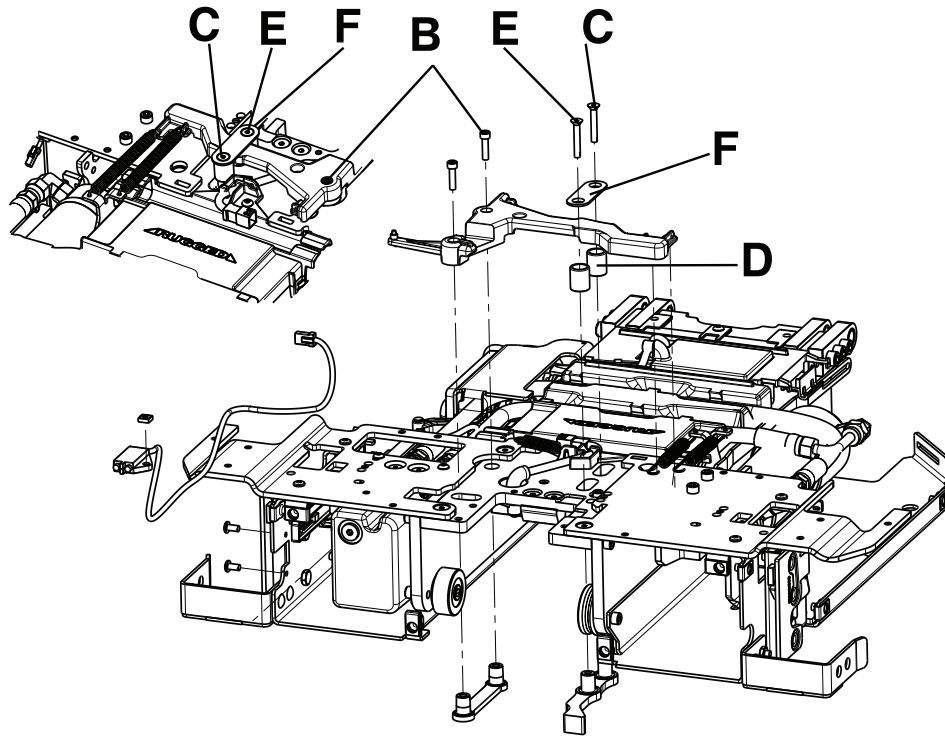

Figure 31 – TPS assembly
4. Using a 5/32" hex wrench, loosen (do not remove) the socket head cap screw (B) that secures the trolley mechanism arm (Figure 31).
5. Using 1/8" hex wrench, remove the flat head cap screw (C) that secures the link to the trolley mechanism arm and remove the trolley mechanism pivot pillar (D) (Figure 31).
6. Using a 1/8" hex wrench, loosen (do not remove) the flat head cap screw (E) that secures the front link (F) to the trolley mechanism arm and swing it out of the way (Figure 31).